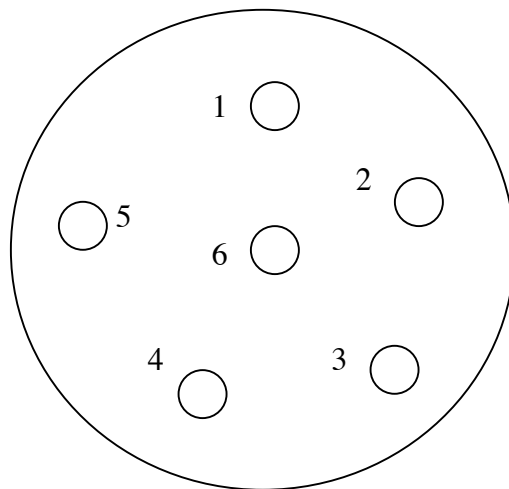

Figure 6. Place 6 disks (each containing a different antimicrobial) evenly spaced on the agar as above.
5. Place saturated disks onto agar plate (fig 6)